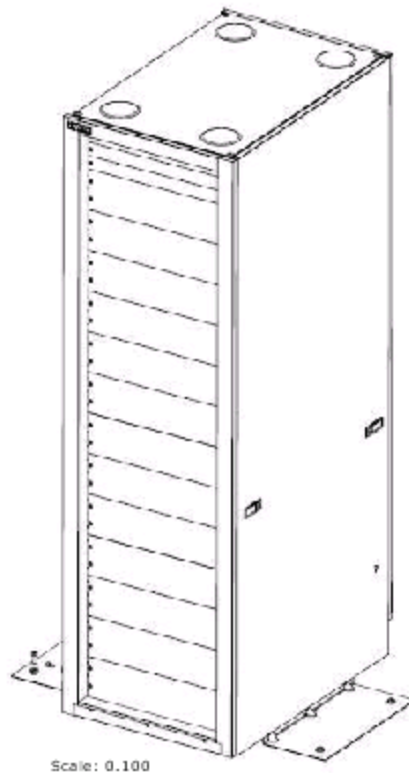

Figure C-12: View of Hitachi Rack with Side Stabilizer Plates Installed
- Install the front anti-tip stabilizing plate to provide greater stability and safety. See Stabilizing the rack on page C-23 and Installing side stabilizer plates on page C-25. Figure C-12: View of Hitachi Rack with Side Stabilizer Plates Installed on page C-26 shows an how to install the stabilizer plates.
3. Using the hardware supplied, attach both plates as shown in Figure C-12: View of Hitachi Rack with Side Stabilizer Plates Installed on page C-26 using the included hex tool.